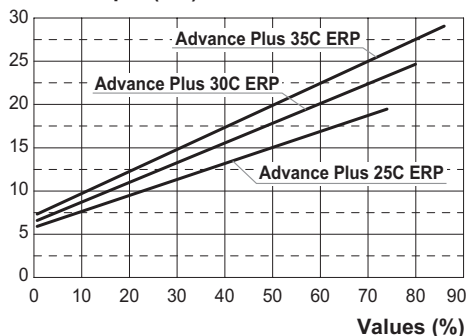
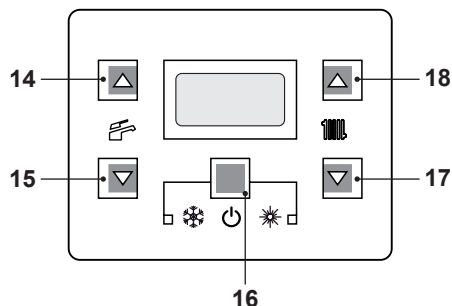
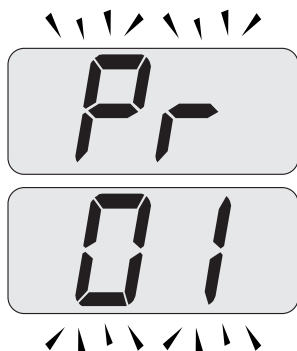

Fig. 8.30
Fig. 8.31
Fig. 8.32
Refer to Fig. 8.30 and determine the correct Value appertaining to the output required for the central heating requirement.
- Enter the "programming mode" by sequentially pressing keys 16 - 17 - 18 (Fig. 8.31) for 10 seconds at the same time until the letters Pr that alternate with code 01 are displayed on the LCD display, indicating that "parameter 01" (Fig. 8.32) has been activated.
- Press keys 16 and 18 (Fig. 8.31) at the same time until the value of parameter 12 (71=**Advance Plus 25C ERP** or 77=**Advance Plus 30C ERP** or 85=**Advance Plus 35C ERP**) is displayed on the LCD display (Fig. 8.34).
- It is possible to modify parameter using keys 17 or 18 (Fig. 8.31) (Refer to Fig. 8.30 and determine the correct Value appertaining to the output required for the central heating requirement.).
- By pressing key 16 (Fig. 8.31) confirmation of the inserted value is obtained.
- Press keys 16 and 17 (Fig. 8.31) at the same time to exit without changing the value (return to the parameters list Fig. 8.33).
- Press sequentially keys, 16 - 17 and then 18 (Fig. 8.31) and hold in for 10 seconds to exit the "programming mode".